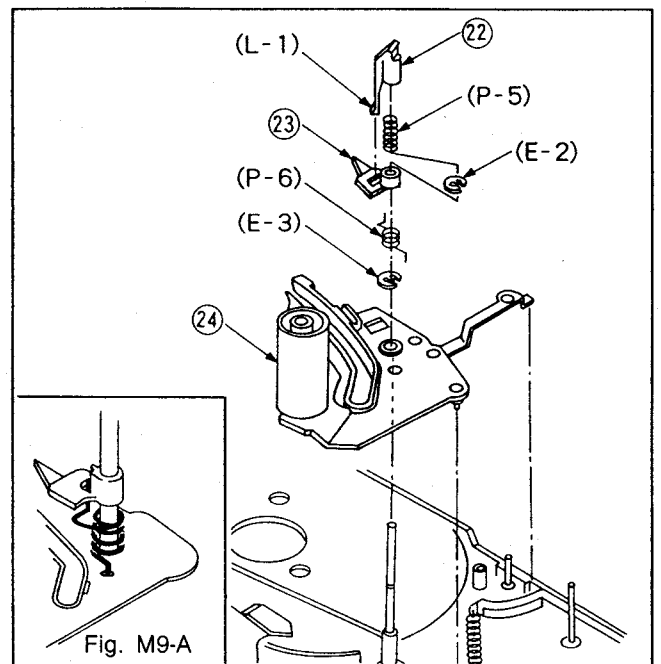

Fig. M9
19) Remove the tape opener guide. See Fig. M9
- 20) Reinstall the pinch arm assembly. Install the E-ring. See Fig. M9 & A 5.
- 21) Reinstall T1 return arm spring and T1 return arm. Install the E-ring. See Fig. M9-A.